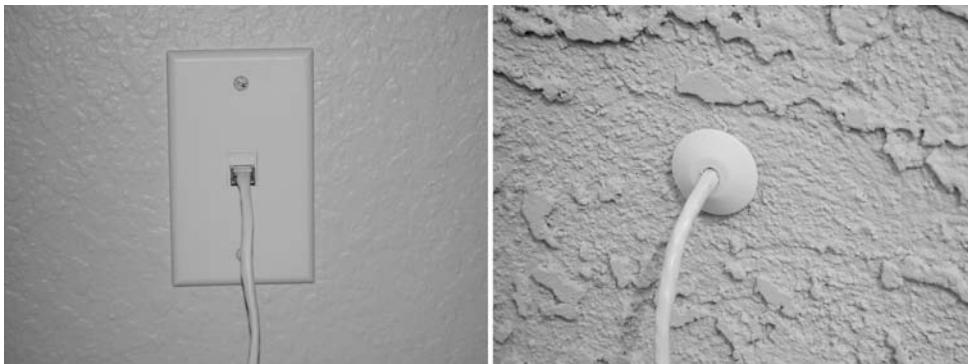

FIGURE 11-18: RJ-45 wall-mount plate (left) and outdoor cable bushing (right).
- When running the cable through a wall to get outside, consider using an RJ-45 wall jack on the inside wall as shown in Figure 11-18. On the outside wall, use a cable bushing to protect the wires. Both the RJ-45 wall jack and cable bushings are available at most major hardware stores.